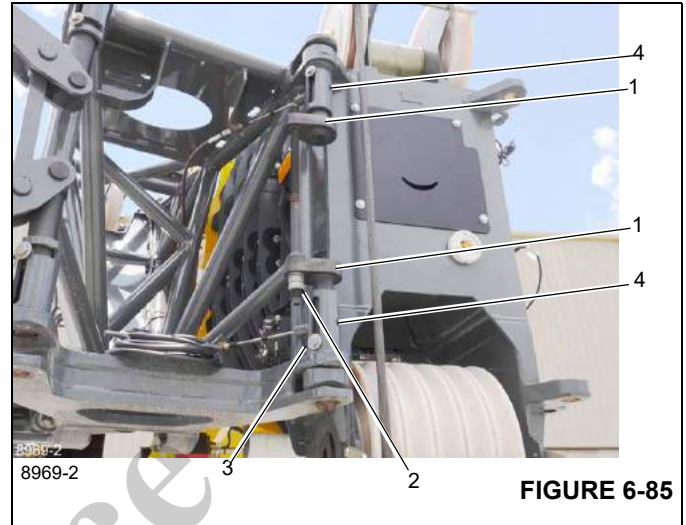

FIGURE 6-85
12. Install the pins (1), (Figure 6-85) through the fittings using an impact driver turning the jack screw (2), (Figure 6-85) counterclockwise. The jack screw drive bolt will bottom out when the pins are fully engaged. The
**NOTE:** Pin #2 will **NOT** unlock unless the right side boom nose pins are fully engaged. If Pin #2 does **NOT** unlock, make sure the right side boom nose pins are fully engaged and the cable ends are inserted through the pins. Refer to (4), (Figure 6-85).